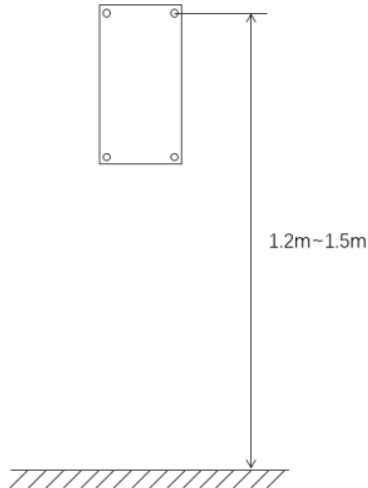

Figure 4-4 Mark the drill holes
- 1) Place the drill template at the desired location as shown in Figure 4-4.